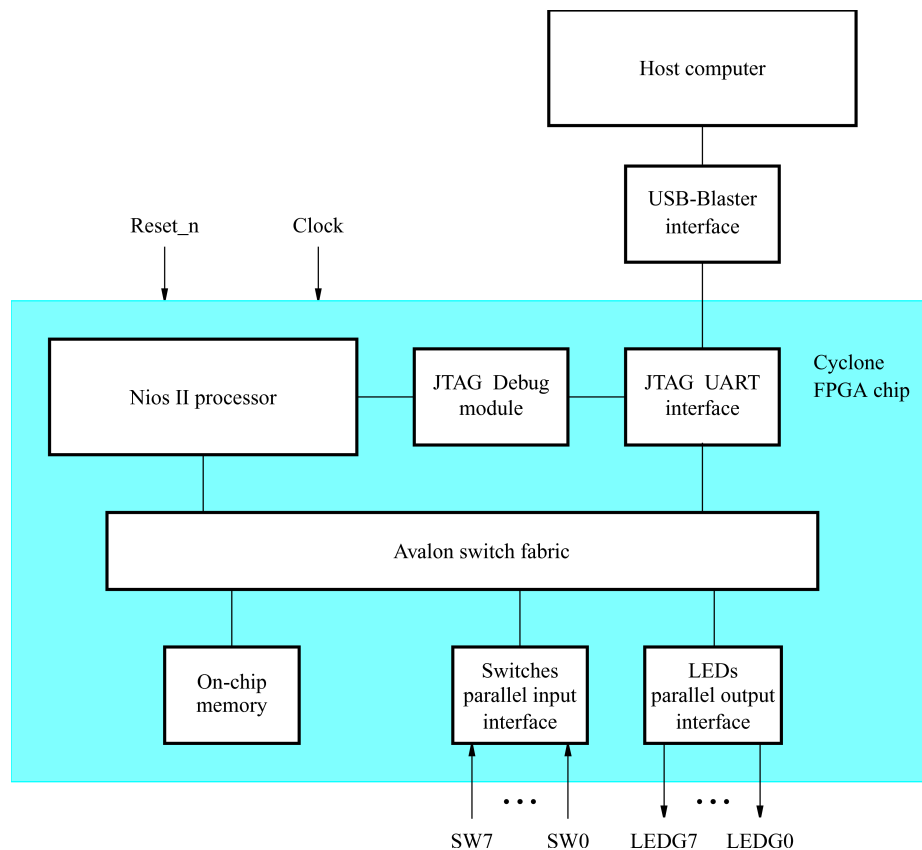
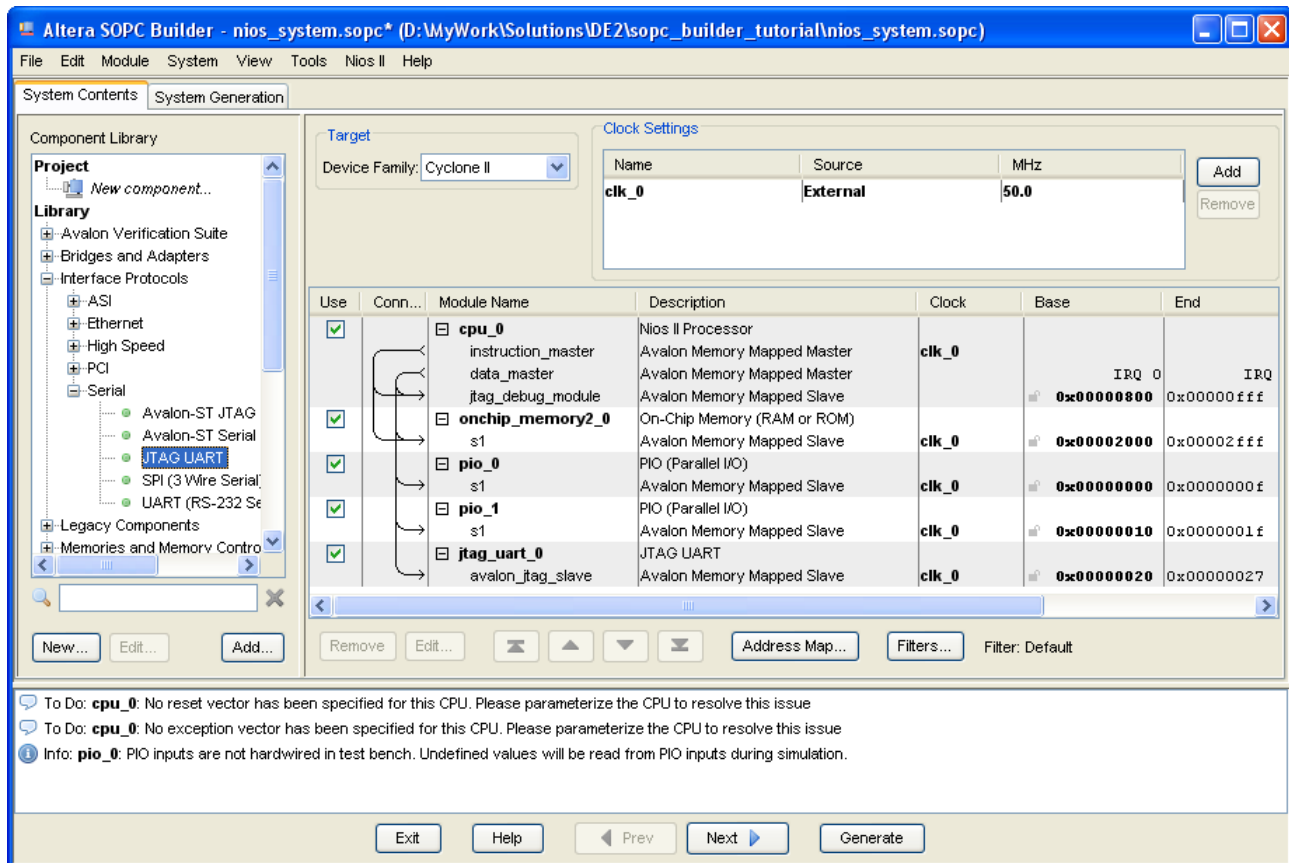

Figure 2. A simple example of a Nios II system.
Figure 13. The complete system on a DE-series board.
Our example system is given in Figure 2. The system realizes a trivial task. Eight toggle switches on the DE-series board, *SW7–0*, are used to turn on or off the eight green LEDs, *LEDG7–0*. The switches are connected to the Nios II system by means of a parallel I/O interface configured to act as an input port. The LEDs are driven by the signals from another parallel I/O interface configured to act as an output port. To achieve the desired operation, the eight-bit pattern corresponding to the state of the switches has to be sent to the output port to activate the LEDs. This will be done by having the Nios II processor execute a program stored in the on-chip memory. Continuous operation is required, such that as the switches are toggled the lights change accordingly.
We will use the SOPC Builder to design the hardware depicted in Figure 2. Next, we will assign the Cyclone-series pins to realize the connections between the parallel interfaces and the switches and LEDs which act as I/O devices. Then, we will configure the FPGA to implement the designed system. Finally, we will use the software tool called the *Altera Monitor Program* to assemble, download and execute a Nios II program that performs the desired task.
The SOPC Builder is a tool used in conjunction with the Quartus II CAD software. It allows the user to easily create a system based on the Nios II processor, by simply selecting the desired functional units and specifying their parameters. To implement the system in Figure 2, we have to instantiate the following functional units:
10. The complete system is depicted in Figure 13. Note that the SOPC Builder automatically chooses names for the various components. The names are not necessarily descriptive enough to be easily associated with the target design, but they can be changed. In Figure 2, we use the names **Switches** and **LEDs** for the parallel input and output interfaces, respectively. These names can be used in the implemented system. Right-click on the **pio\_0** name and then select **Rename**. Change the name to **Switches**. Similarly, change **pio\_1** to **LEDs**.